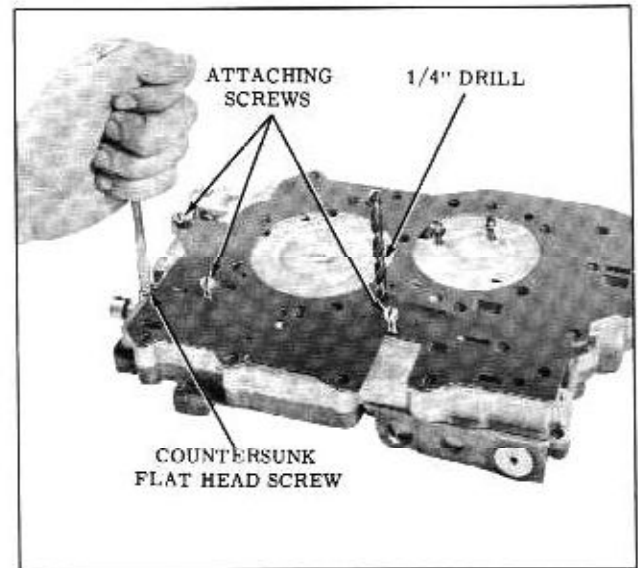

Fig. 3-92 Assembling Valve Bodies
11. Tighten the countersunk flat head screw. (Fig. 3-92)